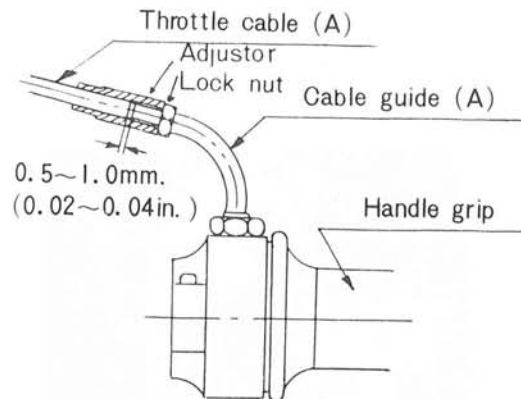

Fig. II-3-6
- b. Next, adjust throttle cable (A) so that the gap as shown in Fig. II-3-6 below will be between 0.5 and 1.0 mm. (0.02~0.04 in.)